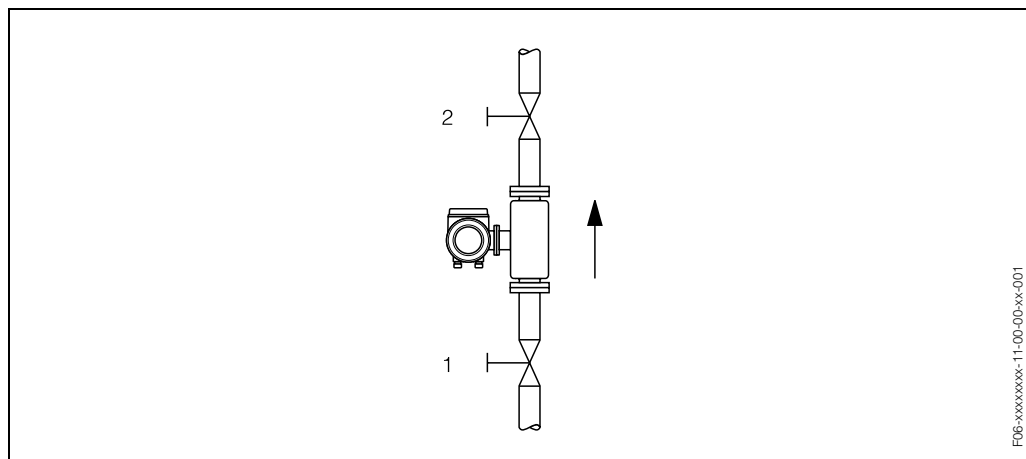

Fig. 17: Zero point adjustment and shut-off valves
- A zero point adjustment is performed with the measuring tubes completely filled and at zero flow ( $v = 0$  m/s). This can be achieved, for example, with shut-off valves upstream and/or downstream of the sensor or by using existing valves and gates (Fig. 17):